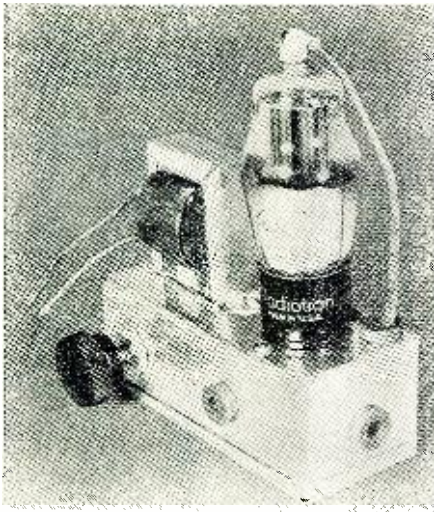

Fig. 5. The oscillator-amplifier unit before mounting to rear of front panel. The single 6C8-G acts as both oscillator and amplifier.
**Oscillator-Amplifier.** The 1000-cycle oscillator and amplifier sections are combined in one stage. The circuit is built around the 6C8-G dual triode tube, one triode serving as the low-distortion oscillator and the other as the output amplifier. The oscillator-amplifier section is built upon a single subchassis, 2" x 2" x 4" in size, which is held to the front panel of the instrument by two 6-32 screws. The oscillator-amplifier unit is shown separately before mounting in the photograph of Fig. 5, and may be seen directly below the variable capacitor in Fig. 1.
The oscillator feeds through gain control  $R_5$  into the grid circuit of the amplifier section of the 6C8-G. The finger knob controlling  $R_5$  may be seen in Fig. 5. This control is mounted within the case inasmuch as it is used only during initial adjustment. The cathode resistor in the amplifier stage has purposely been left unbypassed in order to introduce enough degeneration to smooth out distortion which normally might arise in this stage. The bridge input transformer,  $T_2$ , is another small-sized 3:1-ratio inter-stage audio transformer with its high-impedance winding connected to the bridge circuit. Although a shield between windings is of unquestionable value in bridge circuits, this luxury may be dispensed with without materially affecting the usefulness of the capacity meter.
For convenience and neatness of layout, filter capacitors  $C_8$  and  $C_9$  are mounted inside the subchassis box which holds the oscillator-amplifier section. Leads pass through the grommet-lined holes visible in Fig. 5.